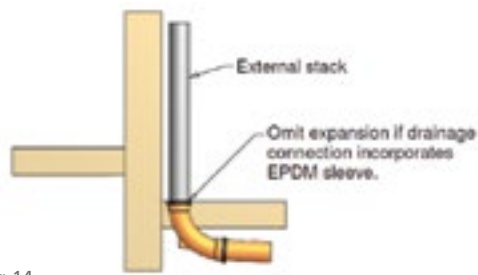

fig 14
b) At the base of an external drainage stack that is connected to a drainage connection that allows movement through an EPDM sleeve. (fig 14)